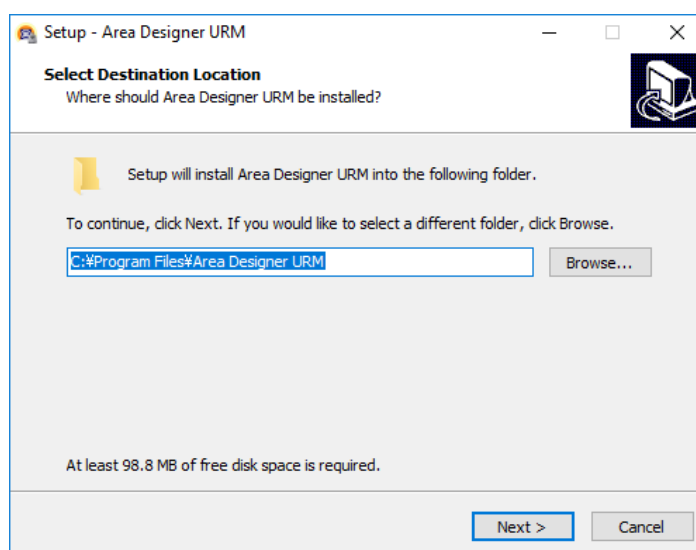

Figure 2-2 Specify the location for an installation
4. As shown in figure 2.2, click “next”, then select the component “Area Designer”.